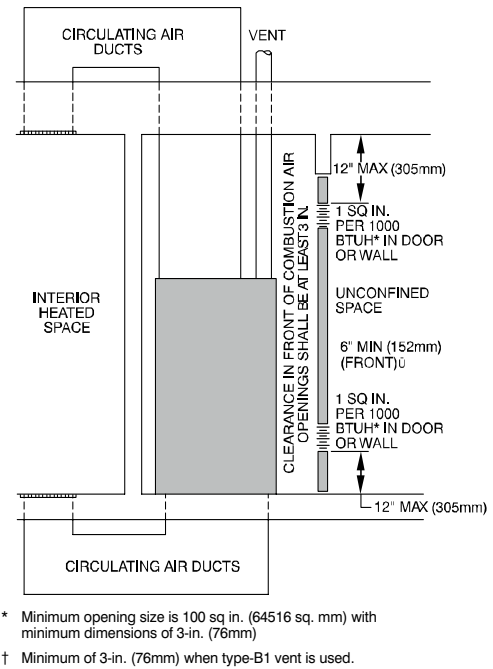

Fig. 7 – Air for Combustion, Ventilation, and Dilution from Indoors
- Combining spaces on same floor level. Each opening shall have free area of at least 1 in.2/1,000 BTU/h (2,000 mm²/kW) of the total input rating of all gas appliances in the space, but not less than 100 in.2 (0.06 m²). One opening shall commence within 12 in. (300 mm) of the ceiling and the second opening shall commence within 12 in. (300 mm) of the floor. The minimum dimension of air openings shall be at least 3 in. (80 mm). See Fig. 7.